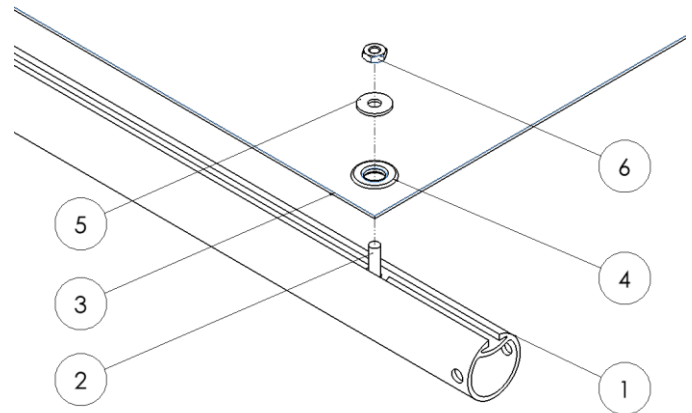

Figure 5.1
Bring the free end of the tarp (3) to the front of the truck. Adjust the previously installed carriage bolts (2) on the tarp axle (1) so that they line up with the grommets (4) that are on the tarp. Make sure that the tarp is centered on the axle. Secure the tarp to the axle using the supplied 1/4" washers (5) and Nylock nuts (6). (Figure 5.1)